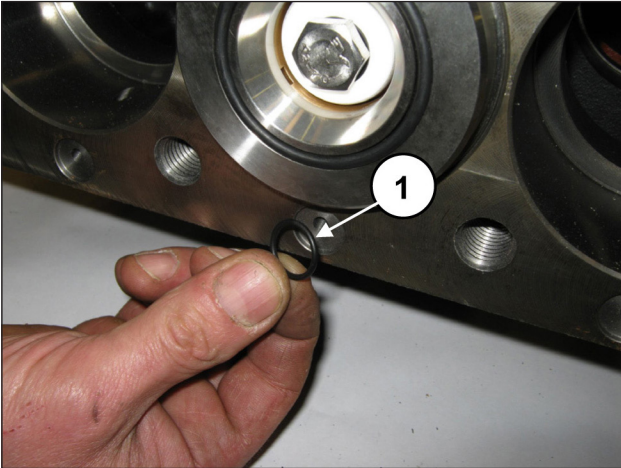

Fig. 161
Apply 6 front O-rings on the pump casing (pos. ①, Fig. 161).